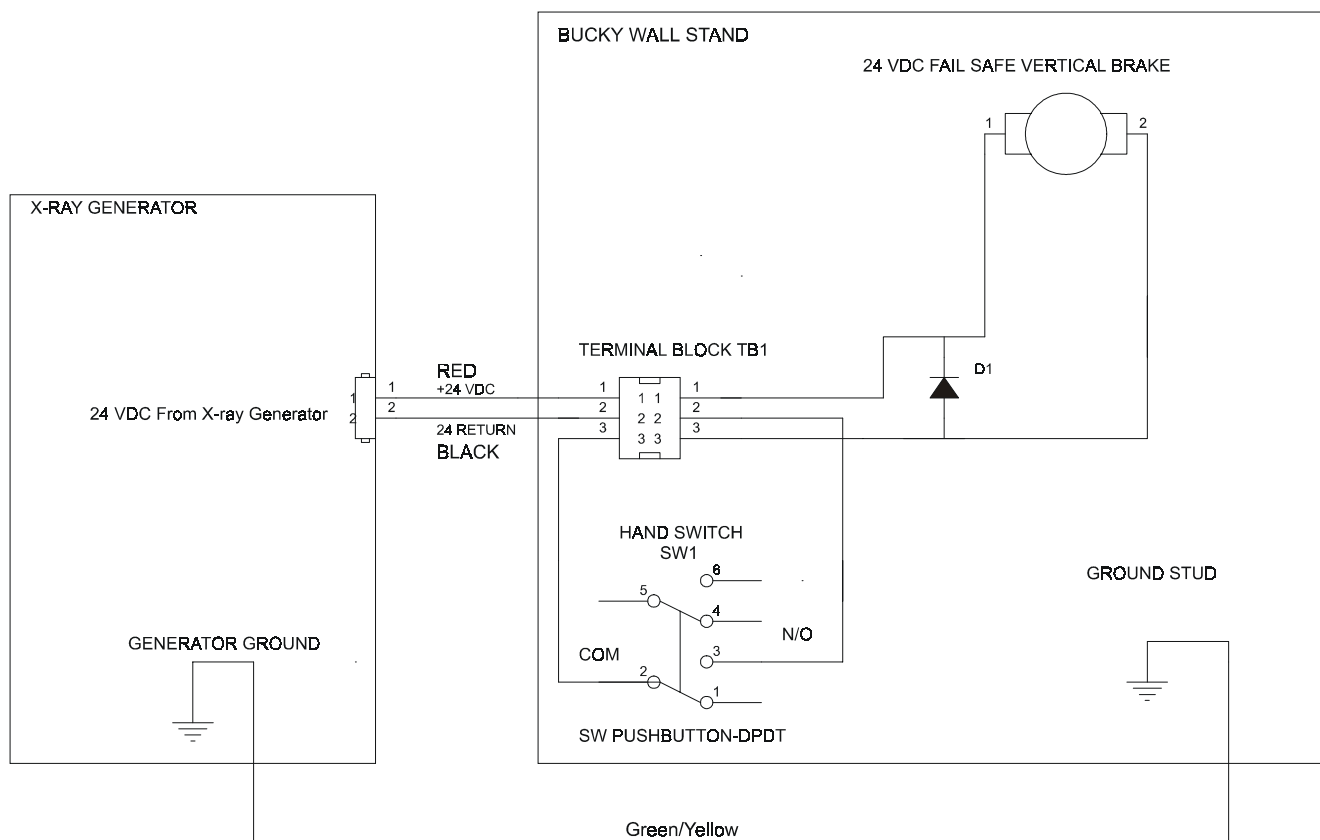

Figure 5. Model QW-420 Electrical Wiring Diagram
6. Connect the red and black wires on Control Handle Cable to Terminal Block TB1 terminals 2 and 3, respectively (see Figure 5).
7. Connect red and black wires from a double (or reinforced) insulated 24 VDC power source (must meet construction/performance criteria per UL 2601-1) to Terminal Board TB1 terminals 1 and 2, respectively (see Figure 5). Use cable ties, as required, to manage cable.